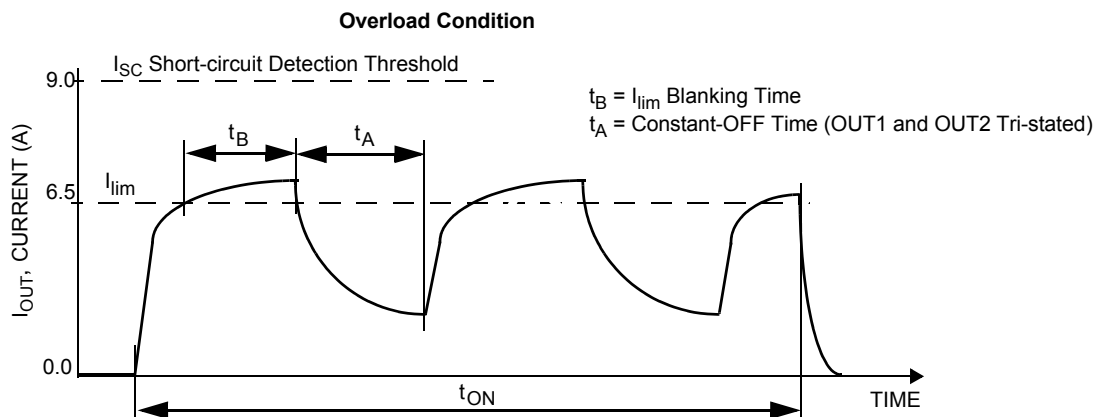
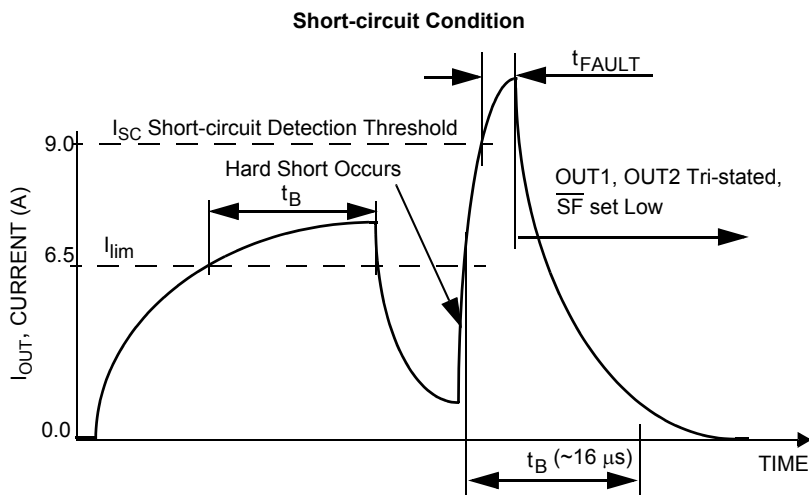
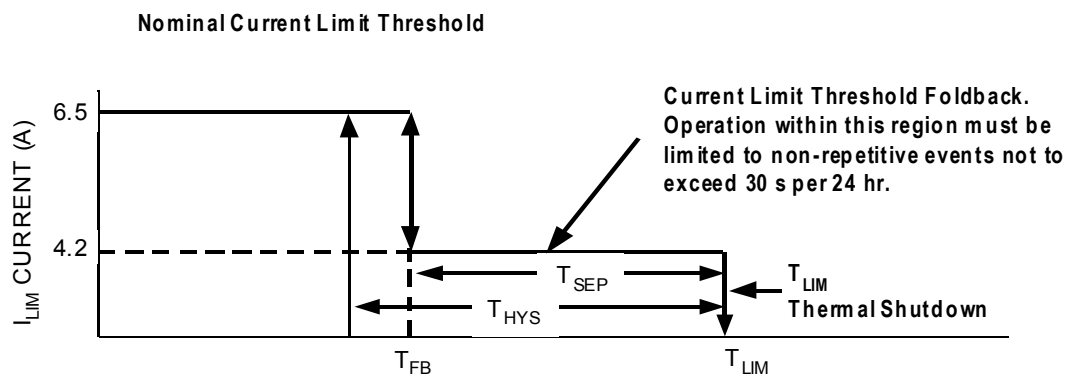

Figure 7. Current Limit Blanking Time and Constant-OFF Time
Figure 8. Short-circuit Detection Turn-OFF Time t_{FAULT}
Figure 9. Output Current Limiting Foldback Region
28. Load currents ramping up to the current regulation threshold become limited at the I_{LIM} value (see Figure 7). The short-circuit currents possess a di/dt that ramps up to the I_{SCH} or I_{SCL} threshold during the I_{LIM} blanking time, registering as a short-circuit event detection and causing the shutdown circuitry to force the output into an immediate tri-state latch-OFF (see Figure 8). Operation in Current Limit mode may cause junction temperatures to rise. Junction temperatures above $\sim 160^{\circ}\text{C}$ will cause the output current limit threshold to "fold back", or decrease, until $\sim 175\text{ }^{\circ}\text{C}$ is reached, after which the T_{LIM} thermal latch-OFF will occur. Permissible operation within this fold back region is limited to non-repetitive transient events of duration not to exceed 30 seconds (see Figure 9).